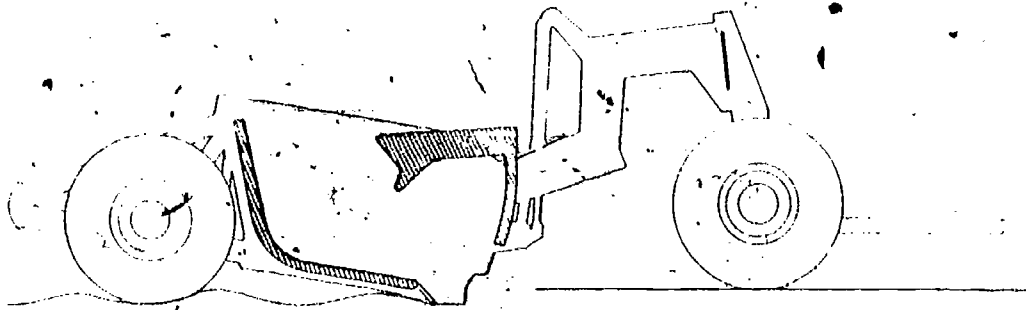

Fig 4-39. Scraper loading sand with pumping action.
- (b) Sand and gravel. Loose sand is difficult to load because the material has a tendency to float ahead of the blade instead of entering the bowl (fig 4-39). This tendency may be overcome by a procedure called "pumping." Pumping is done by raising the apron about 3 feet and lowering the bowl while traveling in a high gear, thus taking advantage of momentum. Load until the engine lugs down. At this point sand will be pushed up in a pile ahead of the blade. Shift into low gear, lower the apron into the pile of sand and continue loading. The bowl is alternately raised and lowered, allowing engine rpm's to pick up as needed to maintain forward movement (fig 4-39). The operation is repeated until the scraper is loaded. Gravel is handled in a similar manner. However, at times it may be difficult to close the apron. If this should happen, back the scraper a few inches, lower the apron, and raise the bowl.